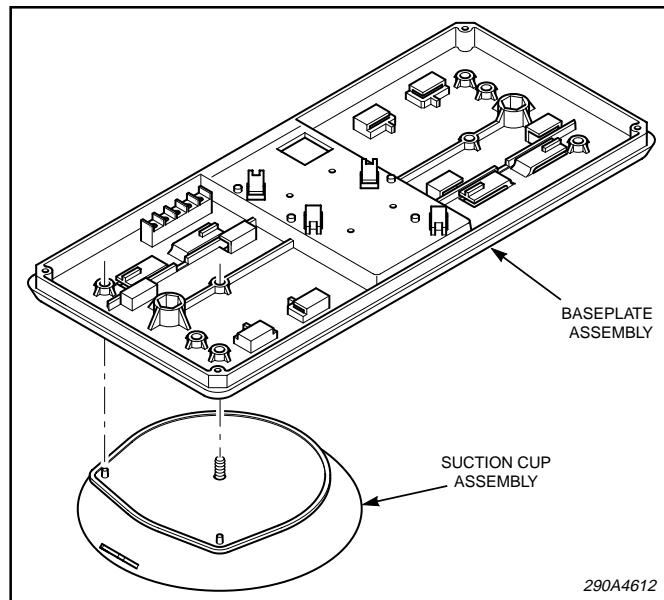

Figure 4.
2. Place the suction cup assemblies onto the base as shown in figure 4. Be sure to align the pins with the mounting holes. Fasten to the base with a screw and washer. Tighten to 24 lb-in.